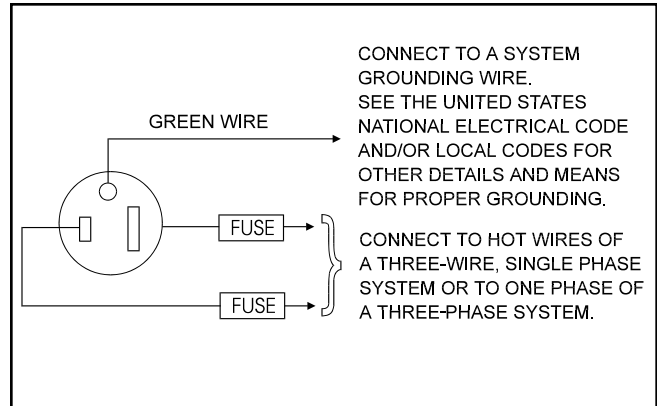

FIGURE A.2. - Ground Connections.
3. Mount the receptacle with the grounding terminal at the top. This allows the power cable to hang down without bending. See Figure A.2.
- b. Fuse the two hot lines of the receptacle with super lag type fuses as shown in Figure A.2. A green wire in the input cord connects this terminal to the frame of the welder. This ensures